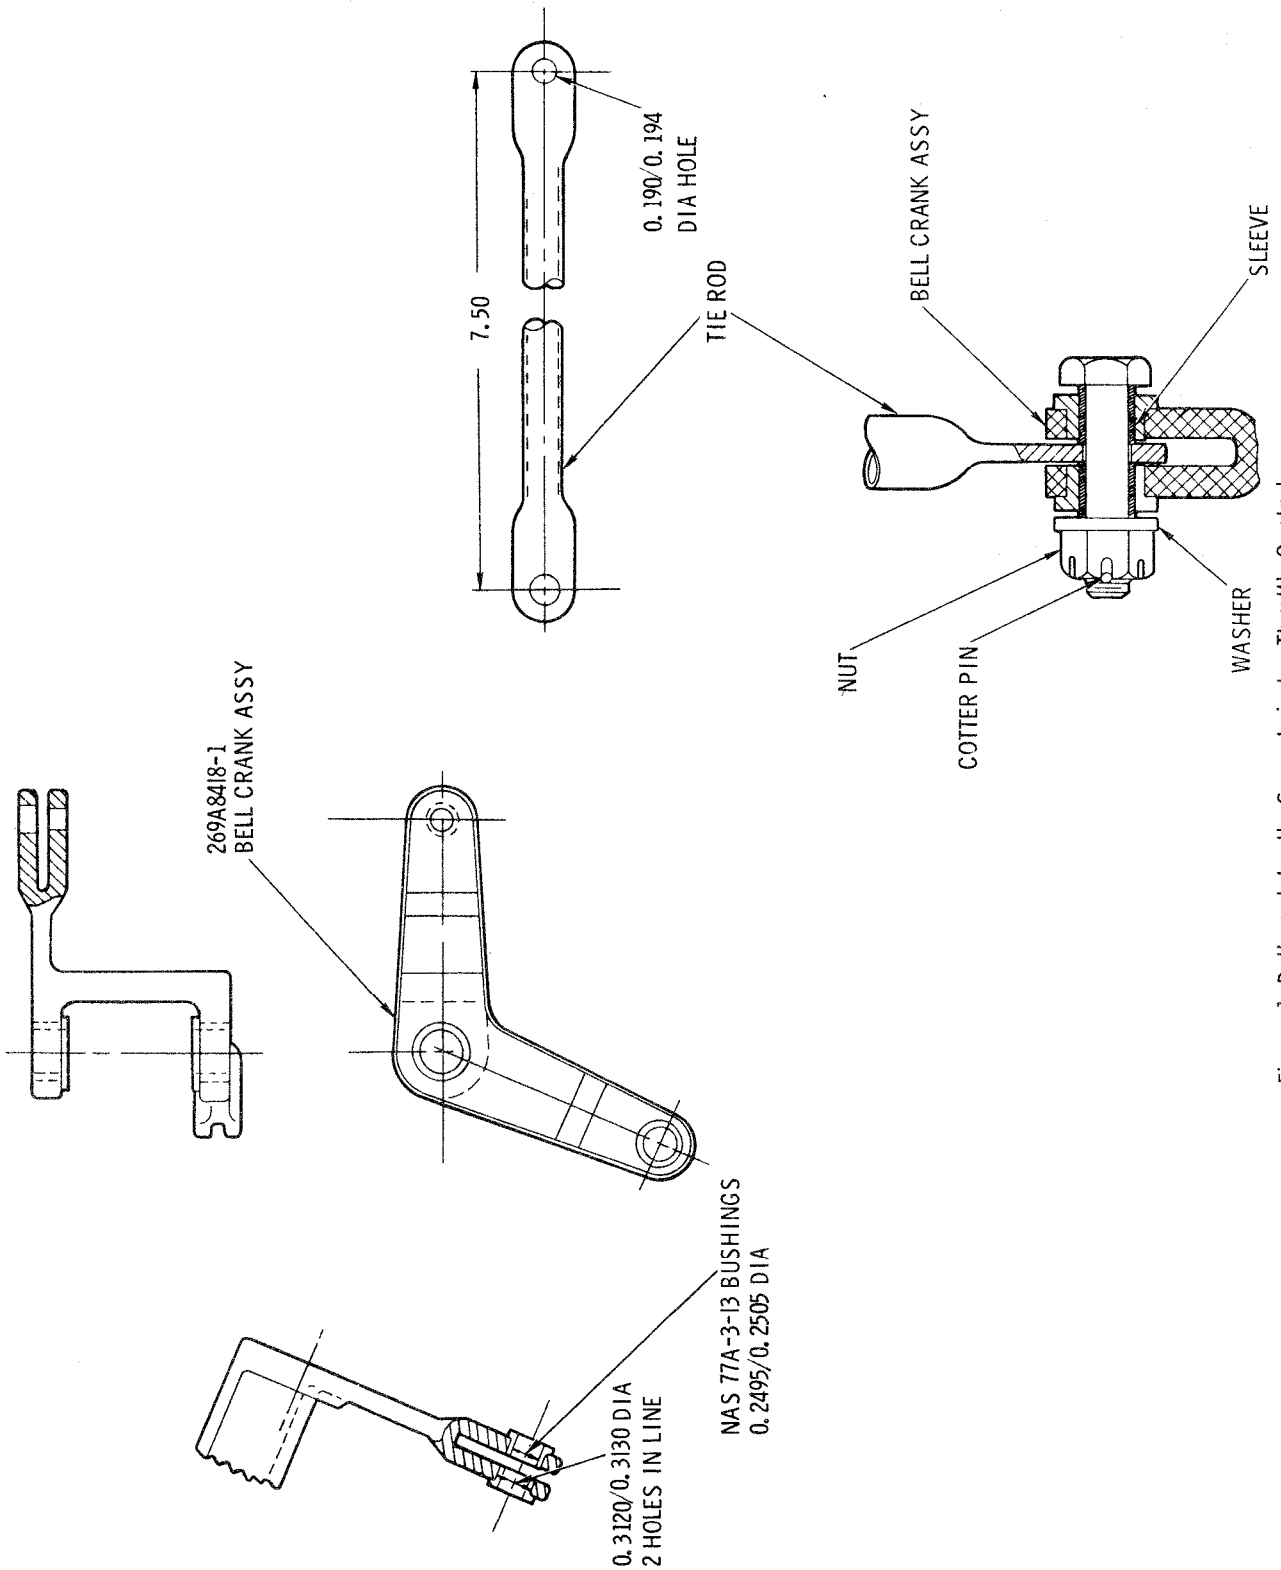

Figure 1. Bellcrank Instl. - Servo Injector Throttle Control
- b. Disconnect cable assembly (26) from arm assembly.
- c. Disconnect tie rod (12) from arm assembly.
- e. Line ream two existing holes in line in bellcrank to 0.3120/0.3130 inch diameter maximum, per Figure 1.